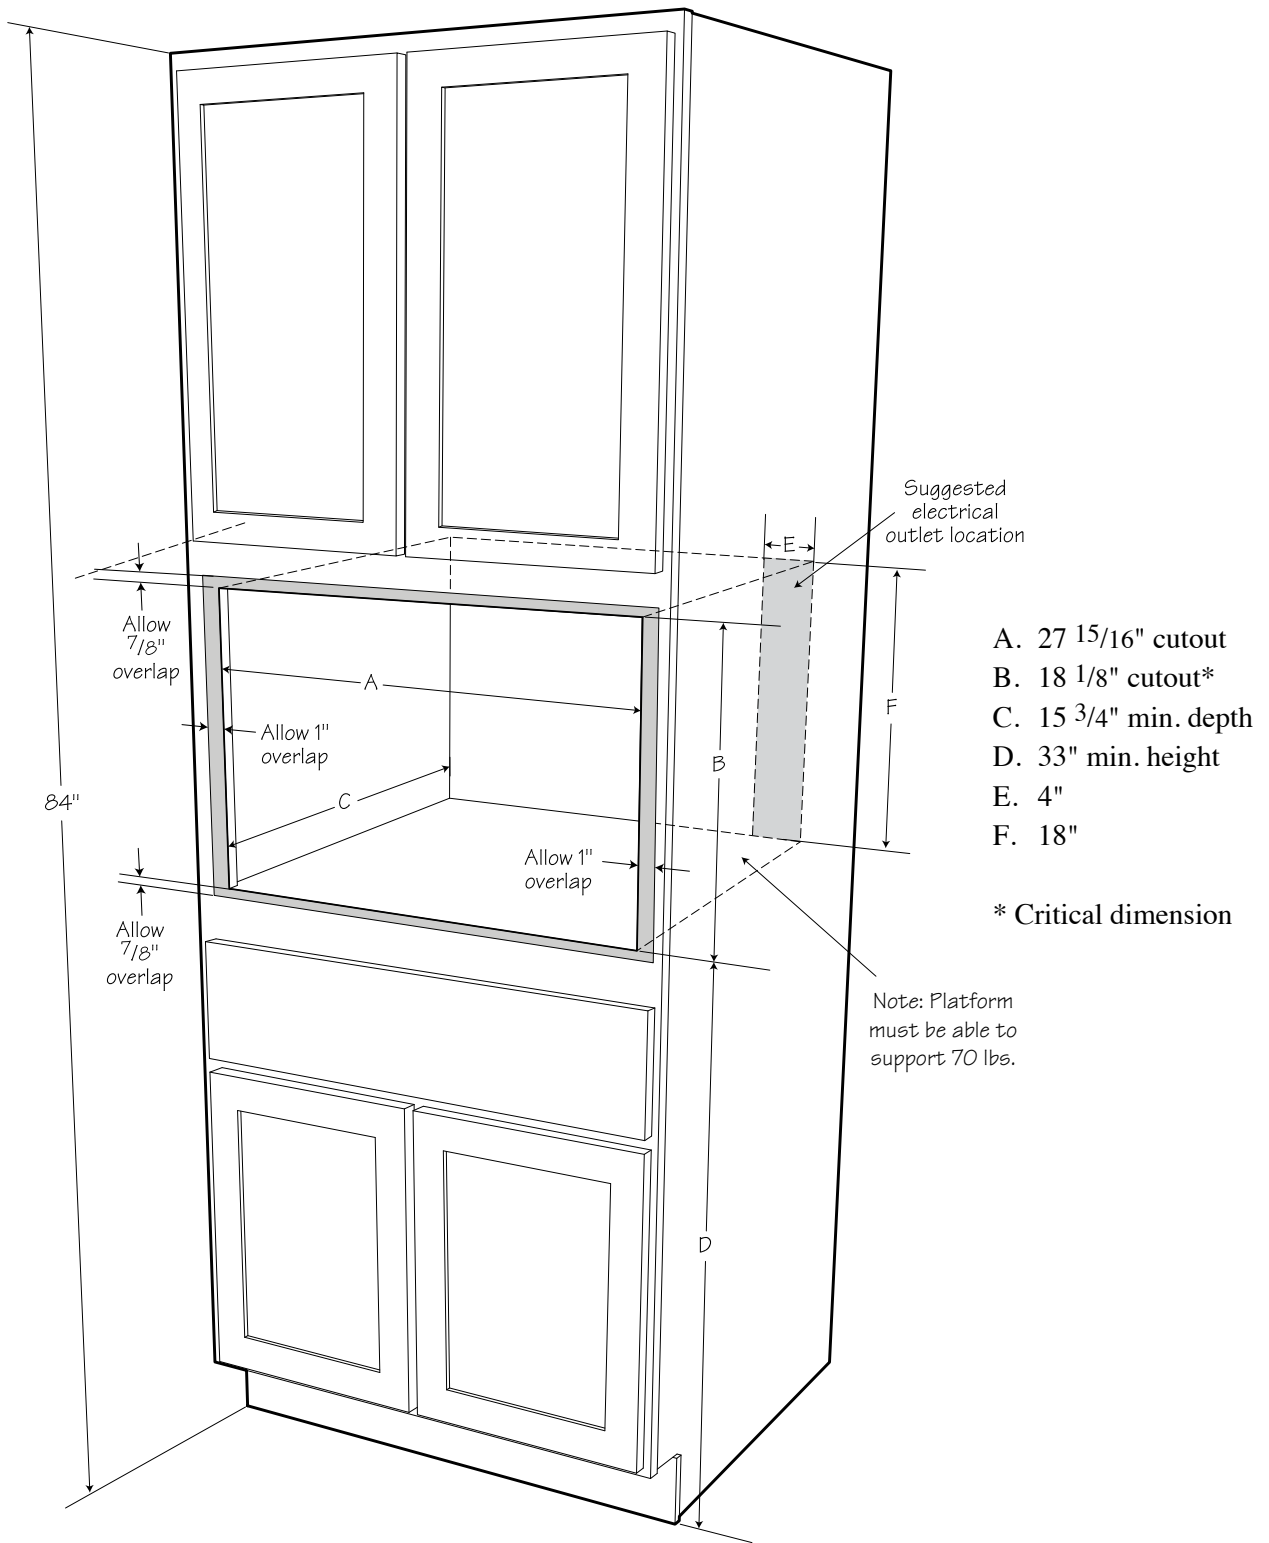
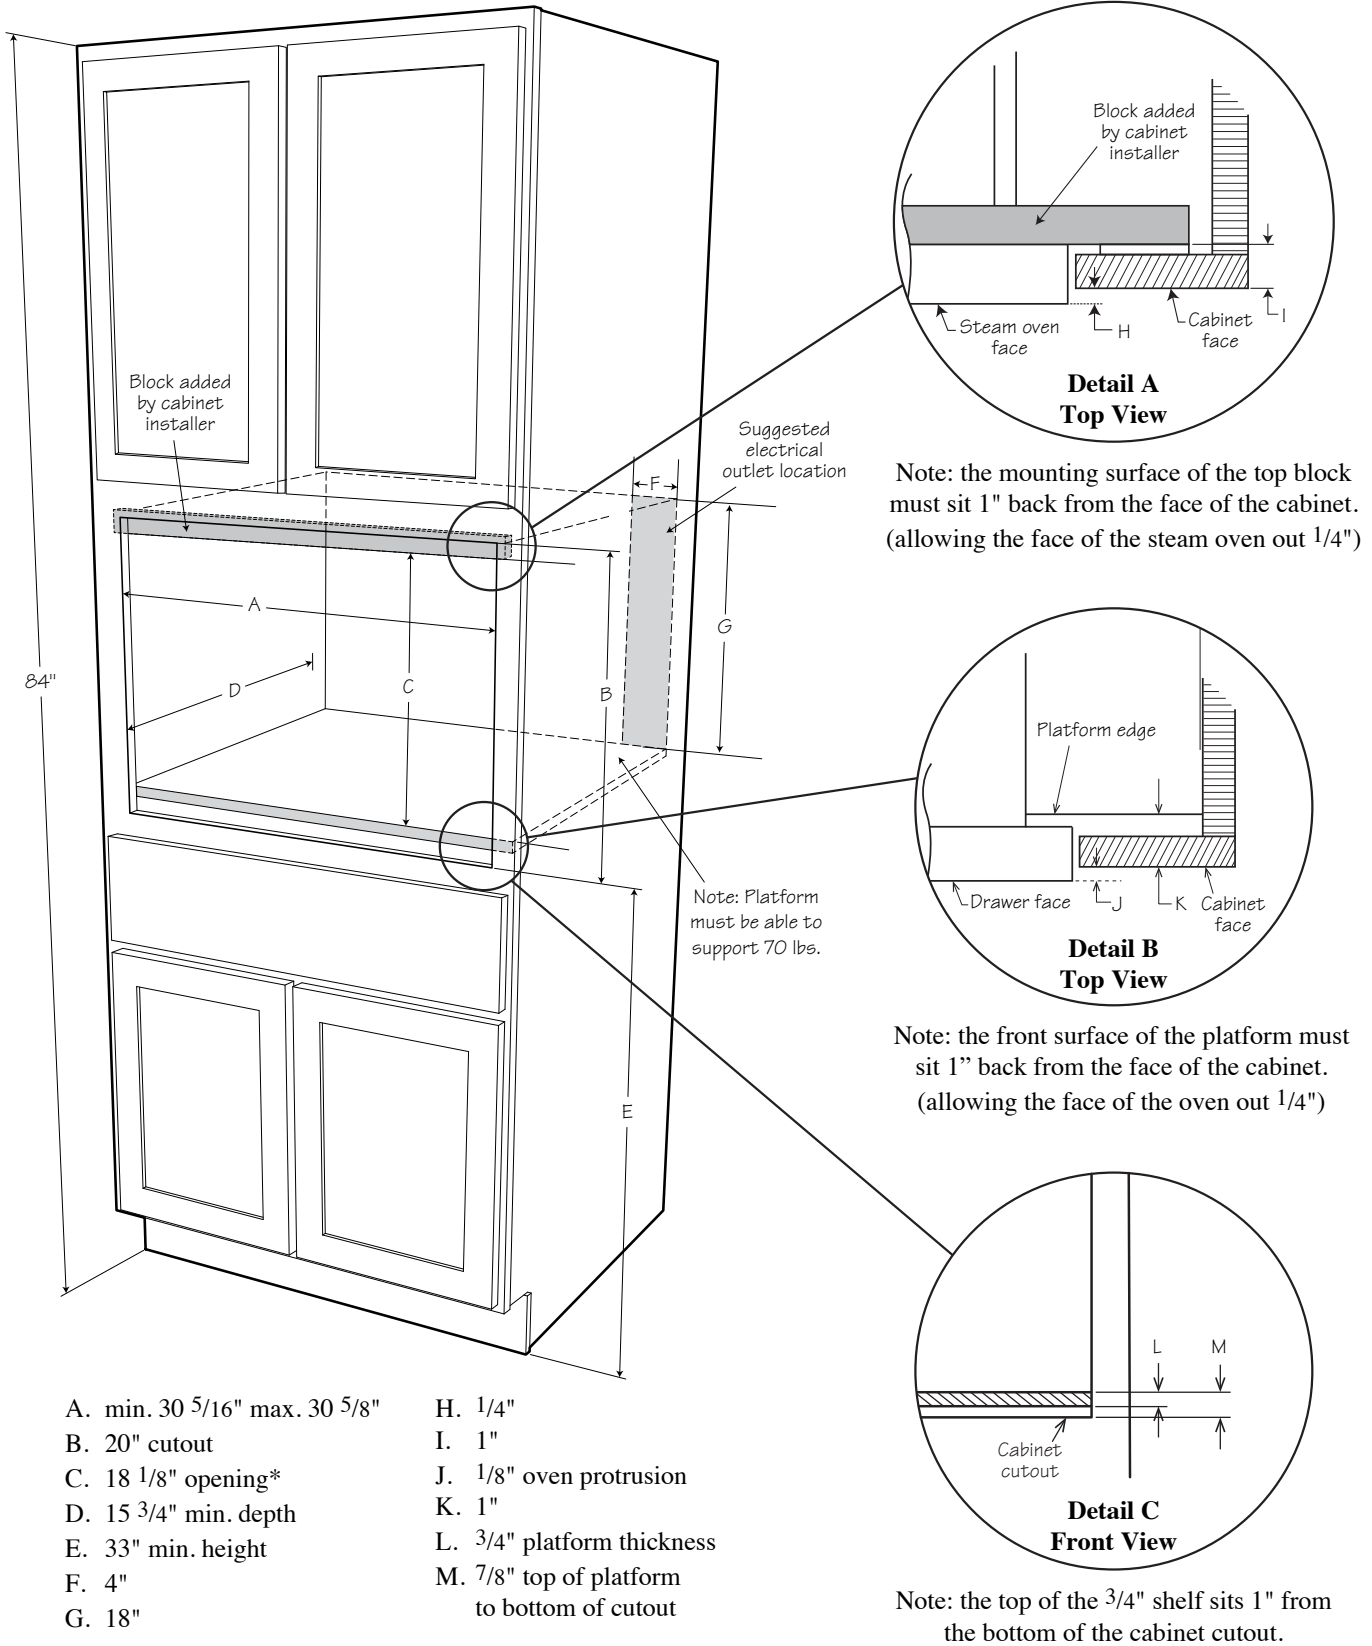

Figure 2
Figure 7
**For SAFETY CONSIDERATIONS do not install oven in any combustible cabinetry which is not in accord with the stated clearances and dimensions on page 4, Figure 2 or page 7, Figure 7.**